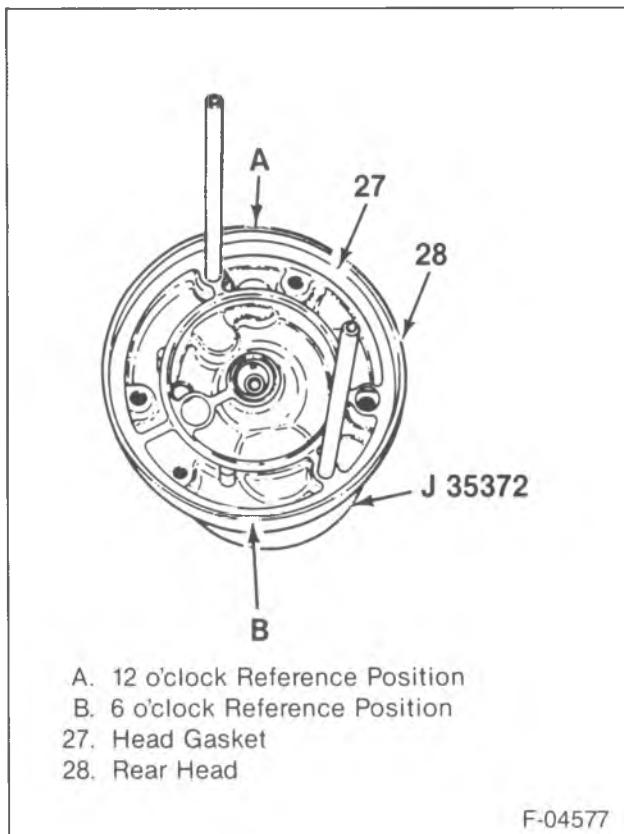

Figure 28—Installing the Rear Head Gasket
2. Gasket (42) (figure 28).
3. Rear valve plate (41).
4. Suction reed plate (40).
5. Seals (39 and 37) to the shaft and cylinder body grooves (38).
6. Shaft and cylinder body (38) to the rear head (43).